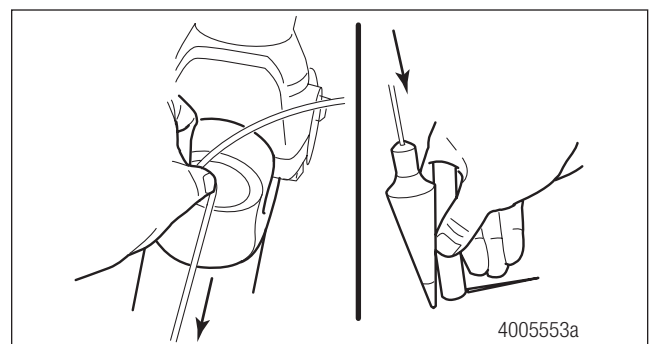

Figure 14.31
5. Attach a plumb bob to the center of the transmission universal joint. Mark a point on the ground just below the plumb bob. Figure 14.31.